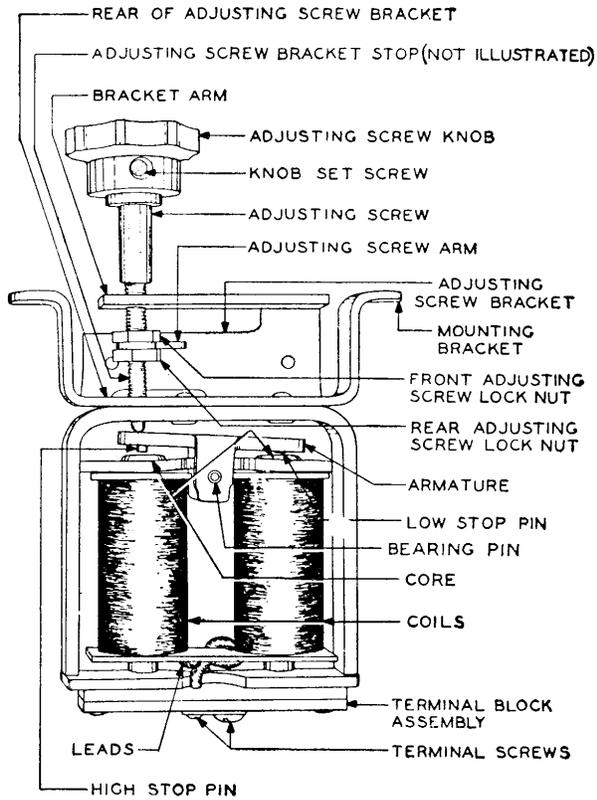

Fig. 1—8-type Buzzer Equipped With an Adjusting Screw Arm
- *2.04 **Adjusting Screw Torque:** Figs. 1 and 2—The adjusting screw shall be sufficiently tight to insure that it will not be turned inadvertently, but shall not be so tight as to prevent its being turned through the complete range when the knob is turned by hand.
- *2.05 **Adjusting Screw Arm Position (Buzzers Equipped With an Adjusting Screw Arm):** Fig. 1—With the buzzer held in the position in which it is normally mounted and with the adjusting screw arm resting against the underside of the adjusting screw bracket stop, the clearance between the high stop pin on the armature and the core shall be
- *2.07 **Tightness of Locknuts:** Figs. 1 and 2